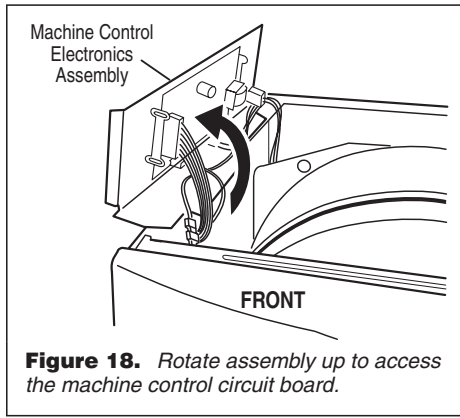

Figure 18. Rotate assembly up to access the machine control circuit board.
2. As you remove the assembly from its mounting position, rotate the assembly up to access the machine panel control circuit board, and set it on the side panel. See figure 18, page 8.